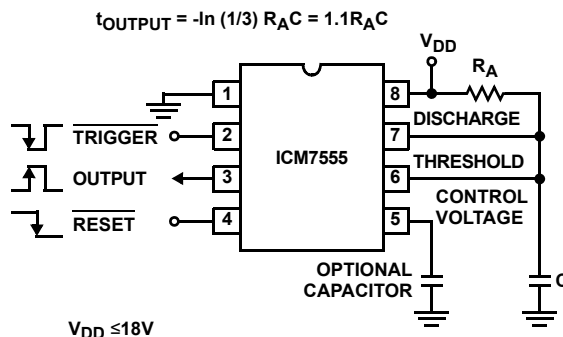

FIGURE 6. MONOSTABLE OPERATION
In this mode of operation, the timer functions as a one-shot (see Figure 6). Initially the external capacitor (C) is held discharged by a transistor inside the timer. Upon application of a negative Trigger pulse to pin 2, the internal flip-flop is set, which releases the short-circuit across the external capacitor and drives the Output high. The voltage across the capacitor now increases exponentially with a time constant $t = R_A C$. When the voltage across the capacitor equals $\frac{2}{3} V_{DD}$, the comparator resets the flip-flop, which in turn discharges the capacitor rapidly and also drives the OUTPUT to its low state. Trigger must return to a high state before the OUTPUT can return to a low state.